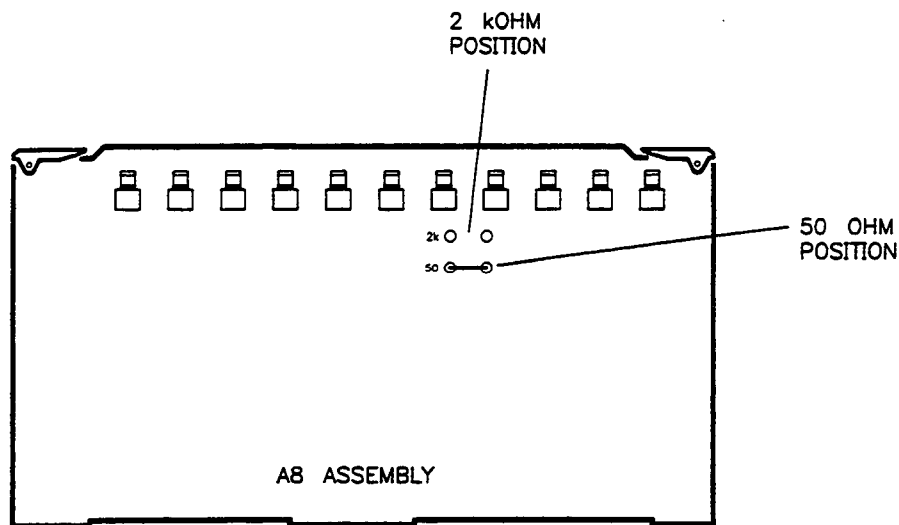

Figure 3-41. A8 Jumper Locations
2. Lift up the A8 modulator generator assembly far enough to access the jumper shown in Figure 3-41.